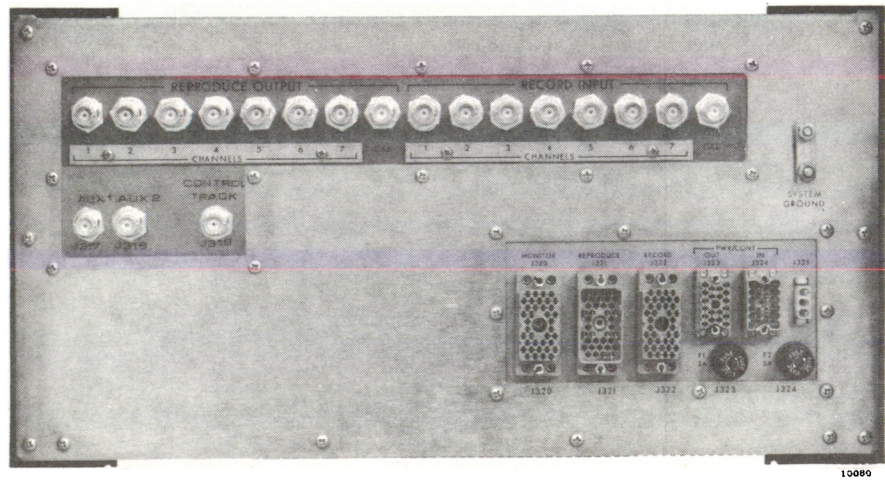

Figure 3-5. Signal Electronics Tray, Rear View
- b. Connect the data signals to be recorded to the appropriate record input connectors on the electronics trays (see Figure 3-5).
- a. Connect an oscilloscope or suitable monitoring device to the reproduce output connectors. The connectors used will be determined by the channels previously recorded. Connectors for channels are identified on Figure 3-5. Do not change
- a. Connect an oscilloscope or suitable monitoring device to the reproduce output connectors. The connectors used will be determined by the channels previously recorded. Connectors for channels are identified on Figure 3-5. Do not change the modulator deviation or demodulator output level settings without referring to paragraphs titled "FM Modulator Deviation Adjustment", "Changing Input Sensitivity Ranges and Impedances", and "FM Demodulator Output Level Adjustment."